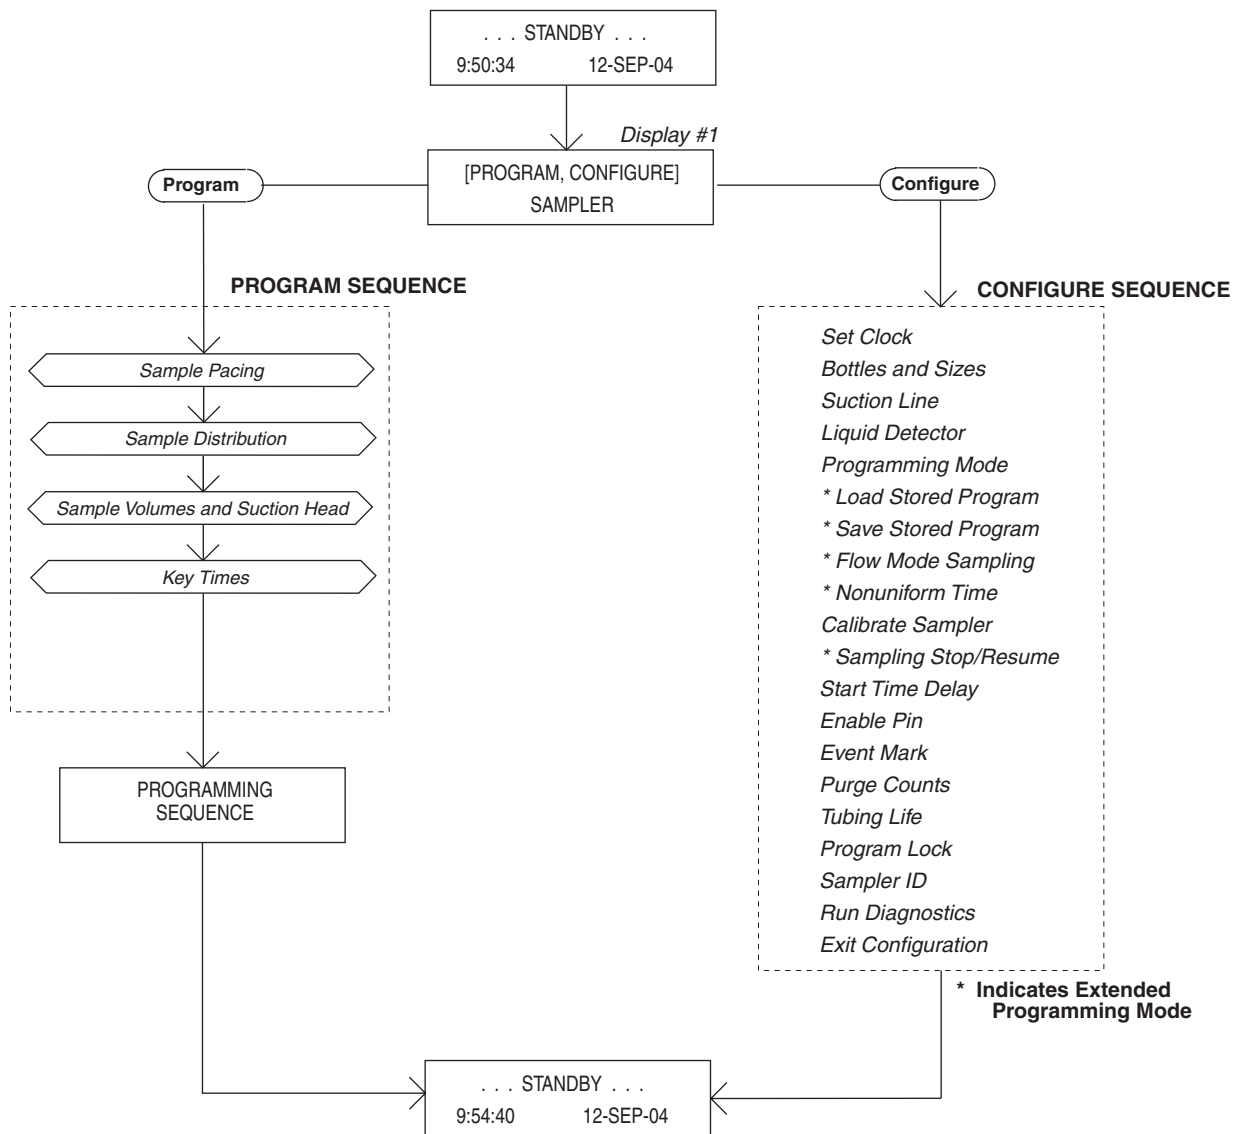

Figure 3-6 Interactive State Structure
**Interactive State** – The interactive state lets you program the sampler. The interactive state contains two branches: the program sequence and the configure sequence. Figure 3-6 diagrams the structure of the interactive state. The program sequence defines the sampling routine; it allows you to enter the interval between samples, the number of samples in each bottle, the sample size, and the start time. The configure sequence provides a number of setup options. Some configure options provide equipment specifications: bottle sizes, suction-line diameters and lengths, and so on. For example, the 3700 Standard can use different-sized sequential bottles: 350 ml and 1000 ml. You must enter the correct bottle size so that the sampler can calculate the range of sample volumes for a given number of samples and prevent overflowing. Other options allow you to set the sampler’s real-time clock, calibrate the sampler, or enable the password program protection.
Although the basic and extended program sequences vary in detail, you can divide both into four sections: Sample Pacing (interval between samples), Sample Distribution (number of samples in each bottle), Sample Volume (sample size in ml), and Key Times (start times or, in the extended mode, stop and resume times). These sections are noted in the Program Sequence section of the diagram shown in Figure 3-6.